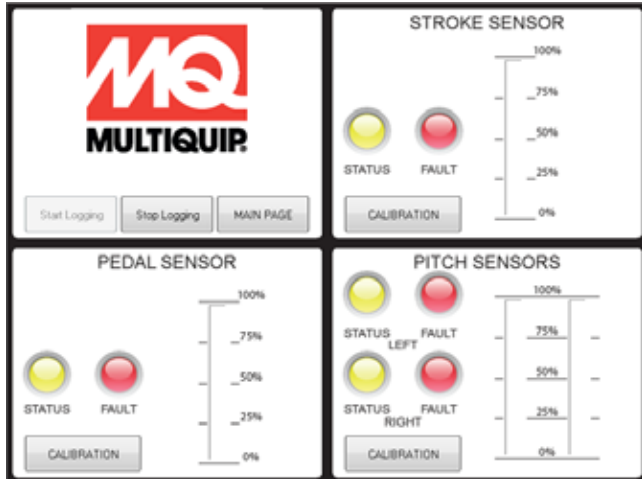

Figure 22. Calibration Button
3. Click “CALIBRATION” button in "PEDAL SENSOR" frame (Figure 22).